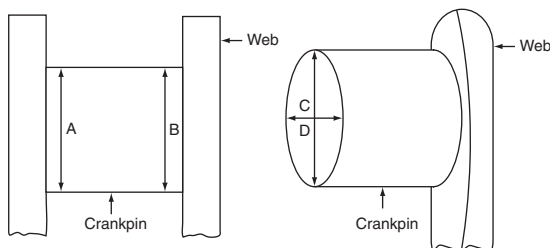

Fig. 13.29 Crankshaft measurement
9. The crankpin shown in Fig. 13.29 is measured at A, B, C and D.